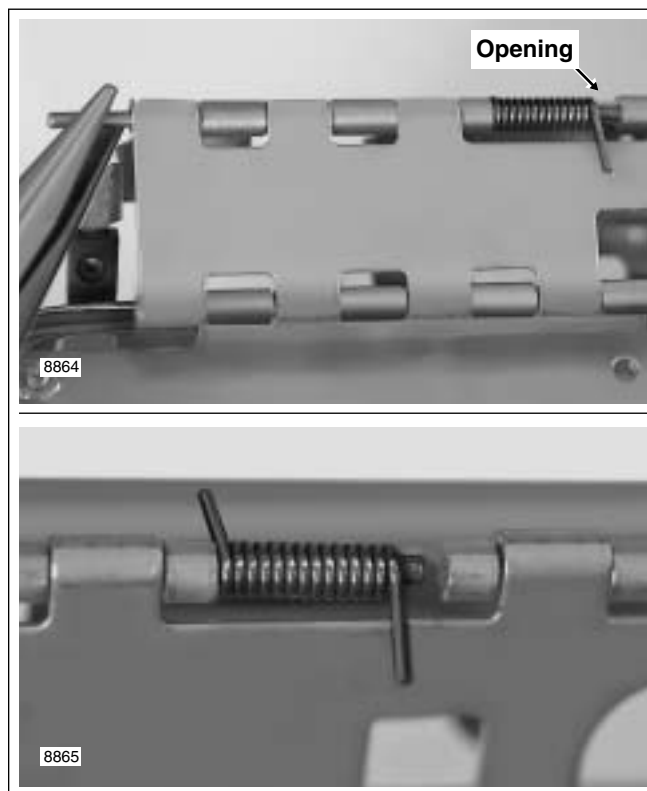

Figure 2. Lid Up Side Down With Latch on Far Side
11. Using a needle nose pliers, grasp pin through opening just outboard of the spring and push toward the crimped link side. Work pin in this manner until end can be seen exiting crimped link. See upper frame of Figure 2. If necessary, pry crimped link outward a little more to achieve the desired result.
12. Grasping end with needle nose pliers, slowly pull pin from links until spring can be slid off opposite end. Only pull pin as far as necessary to remove spring. See lower frame of Figure 2.
1. Slide **new** spring onto end of pin. Orient spring as shown in lower frame of Figure 2.